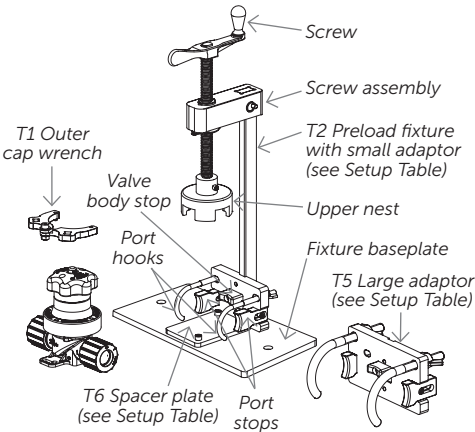

Figure 3.
2. For valves that can be removed from the line, mount the preload fixture (T2) into a vise or fasten to work bench. For valves that are installed in-line and cannot be removed, have one person hold the fixture while another torques the wrench (see Figure 3). If the valve is mounted to a base plate and cannot be removed, remove fixture base plate and have one person hold the fixture while another removes the screw assembly from the preload fixture (T2).